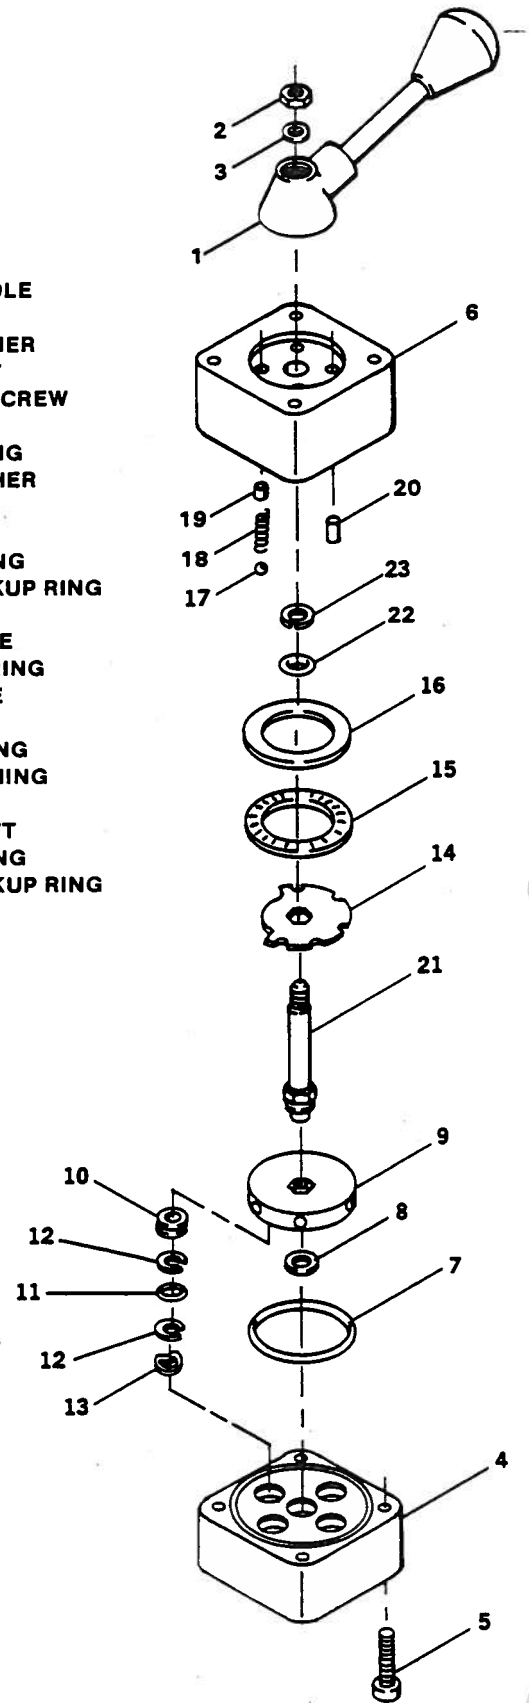

Figure 5-68. Steering Selector Valve Assembly
5-107. DISASSEMBLY. (See figure 5-68.)
a. Match mark body (4, figure 5-68) and cap (6) to aid in reassembly.
b. Remove capscrews (5) and body (4). Note relative position of plate (14).